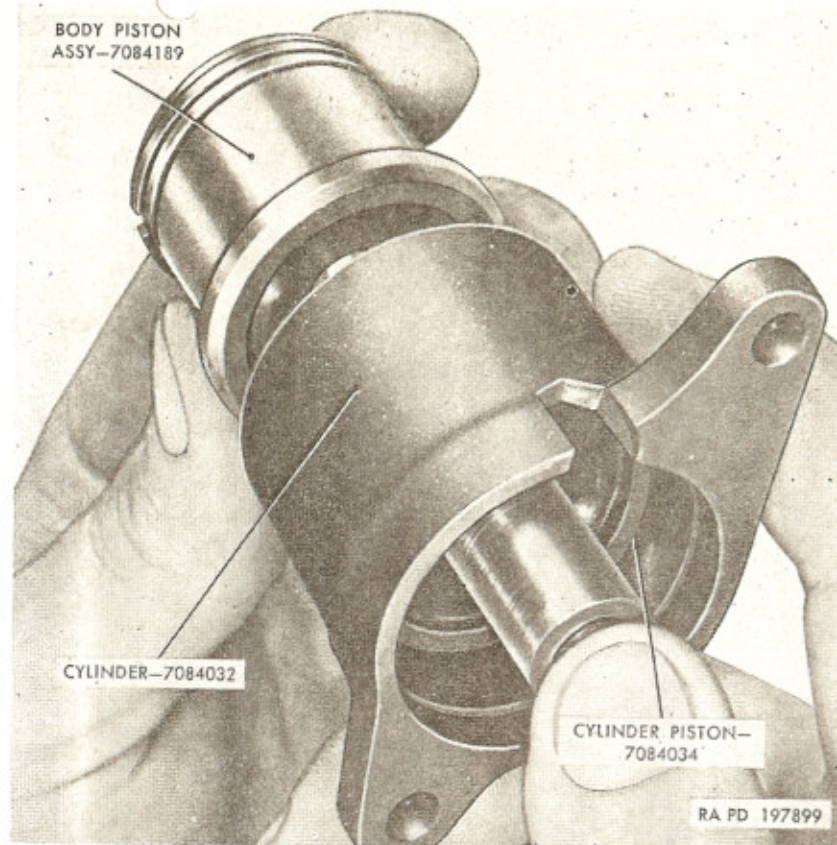

Figure 75. Installing cylinder piston in cylinder.
a. Install $\frac{1}{8}$ x $\frac{1}{2}$ cylinder centering pin (M) and oil transfer line (J) in body (K), if previously removed. Tap line into place with a plastic hammer.
b. Install two $\frac{1}{8}$ -inch pipe plugs (L) in body (K). Tighten plugs to 6 to 7 pound-feet torque.
c. Insert stem of body piston assembly (G) in bottom side (small hole) of cylinder (A). Stem of piston is to serve as a guide when installing cylinder piston (C) in cylinder.
d. Compress cylinder piston oil seal ring (B) on cylinder piston (C); then start piston in cylinder (A) over piston stem guide. Push cylinder piston and stem down carefully past two steps in cylinder wall until piston is seated against bottom of cylinder (fig. 75). Remove stem of body piston assembly (G) from cylinder (A).